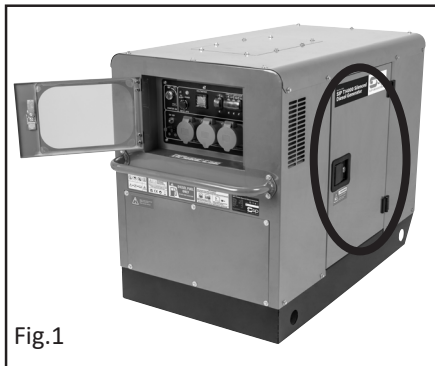

Fig.1
- » Open the access panel in order to get access to the oil gauge (dipstick). Fig.1